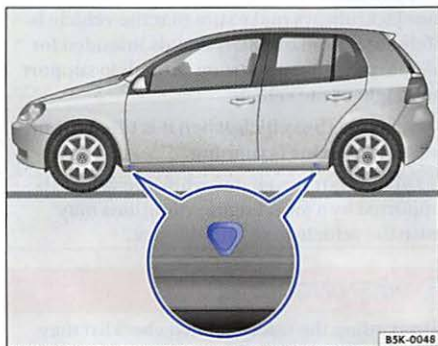

Fig. 184 Lift point for the jack.
side as shown in ⇒ fig. 184). You must use the lift point closest to the wheel being changed ⇒ ⚠.
2. Switch off the engine. Automatic transmission: shift the transmission into Park (P) ⇒ page 179; Manual transmission only: shift into a gear. Then apply the parking brake ⇒ page 188.
5. Find the jack lift point ⇒ fig. 184 on the vehicle frame that is closest to the wheel to be changed.